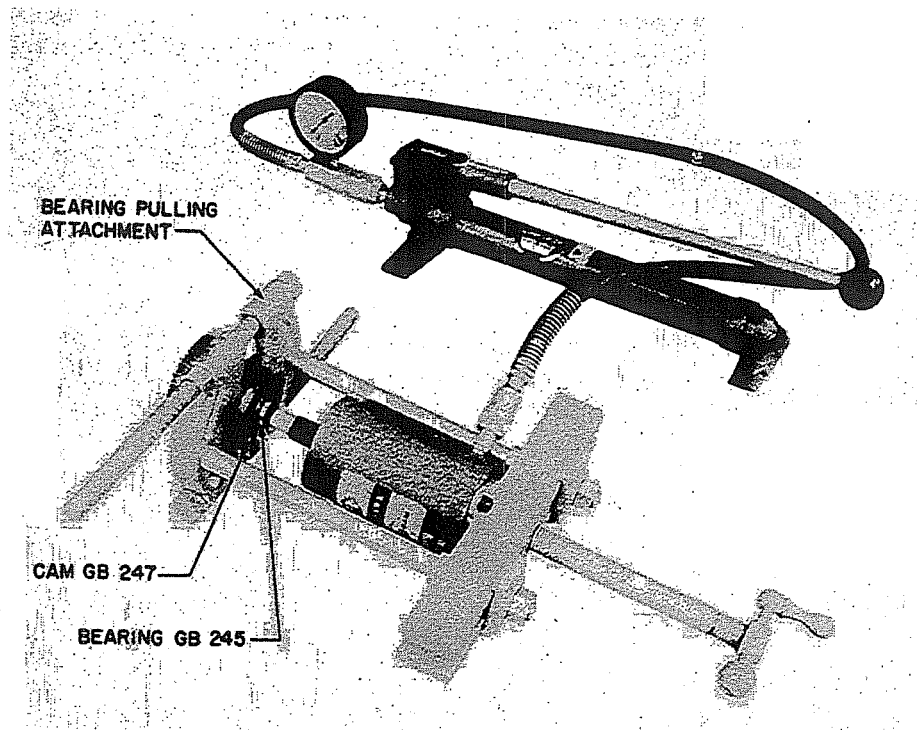

Figure 41. Detector, Removal of Cam GB247 and Bearing GB245
- O. Secure the bearing pulling attachment behind the smaller shoulder of Timing Cam GB247 and apply pressure to Shaft GB256 (figure 41). The timing cam, Washers GB246, and Bearing GB245 will be removed together (page 19 of Parts Catalog).